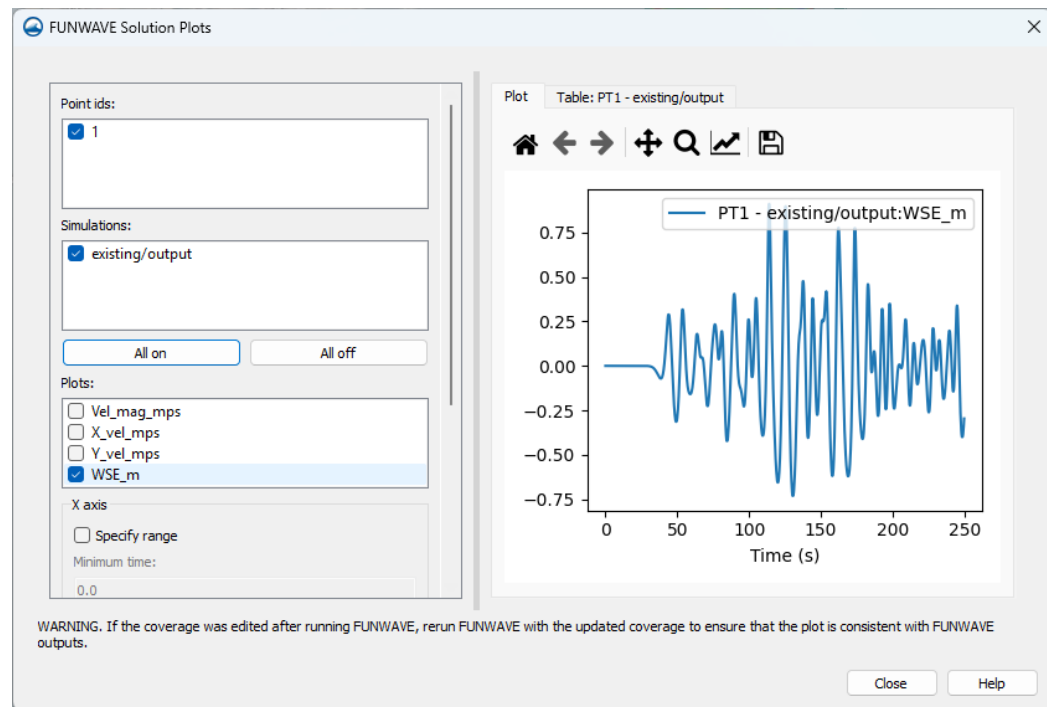

Figure 4 FUNWAVE Solution Plots dialog
4. From the list on the left, in the *Plots* section, turn on the *WSE_m* plot checkbox. The plot appears under the *Plot* tab of the right side of the dialog. The dialog is resizable, refer Figure 4.